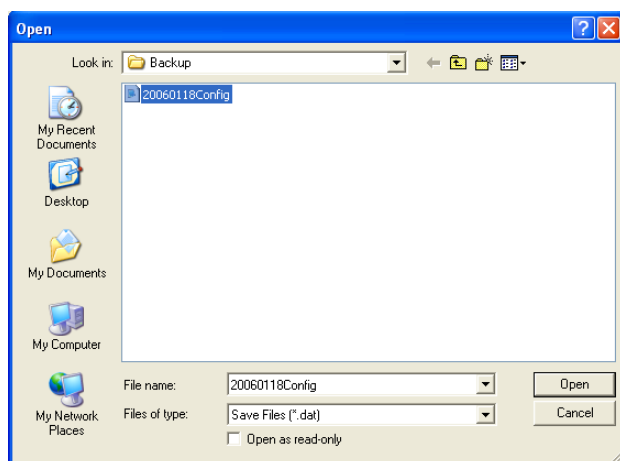

figure 8.23: Open configuration file window
- 1 From the main menu, click the Open configuration file button. The following window will appear (see figure 8.23).